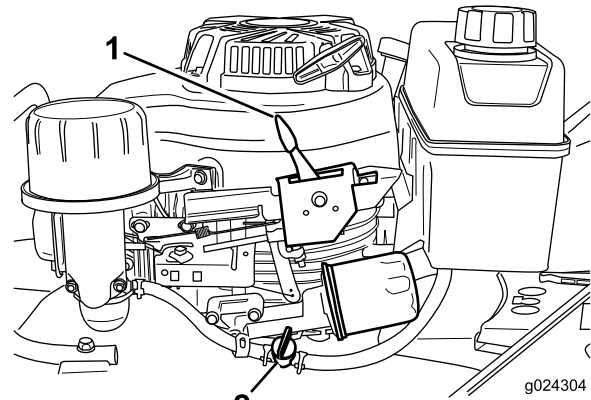

Figure 14
2. Open the fuel valve (Figure 14).
3. Move the throttle-control lever (Figure 14) to the CHOKE position.
Release the blade-control bar and move the throttle-control lever (Figure 14) to the STOP position.
Note: Close the fuel valve (Figure 14) if you will not be starting the engine soon afterward.